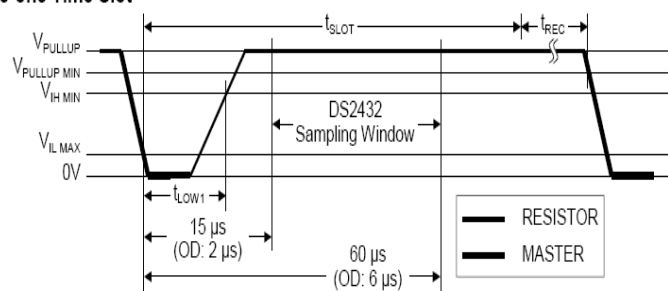

Fig4-97 - Wrote-one Time Slot
- B. Write 1: If the sampling is high, 1 is generated (Note: Read 1 is of a similar waveform pattern) as in Fig4-97: